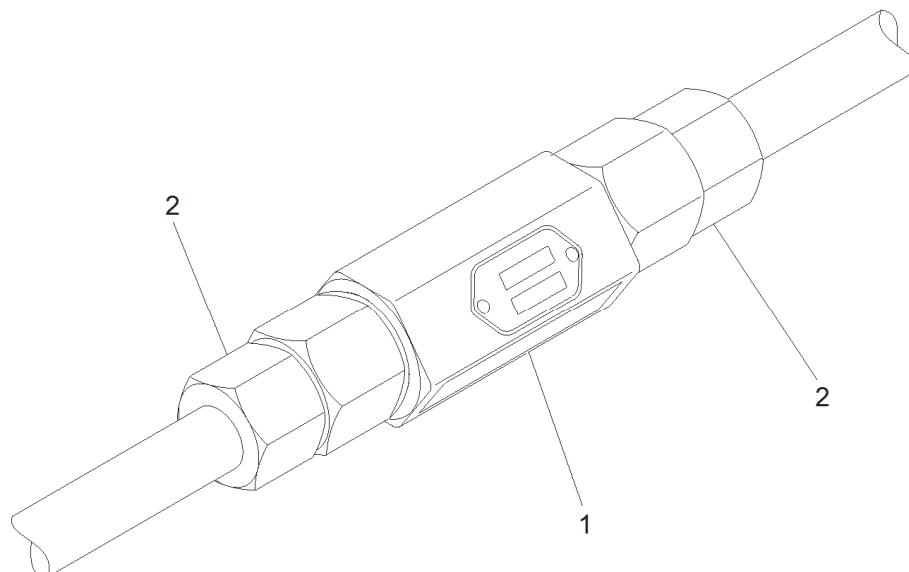

Figure 3-1: Check Valve Inspection
1. Inspect check valve (1) for obvious visible damage such as dents, scratching, scoring, corrosion, or missing parts. If excessively damaged or missing parts, replace check valve. See Figure 3-1.
2. With brake system pressurized, apply leak detector to pipe connections (2) of check valve (1).